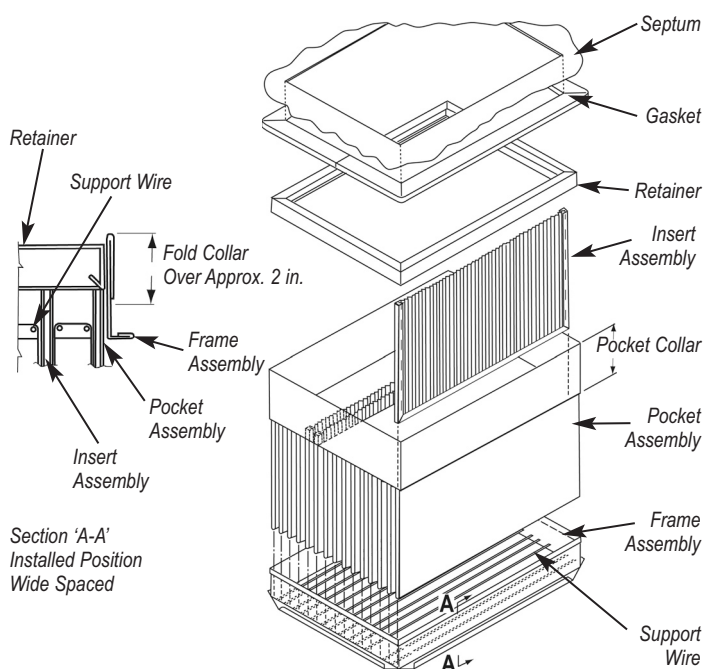

Figure 9. Cartridge Installation
6.3 Filter Cartridge Change-Out (Figure 9)
8. Assemble the new cartridge as shown in Figure 9 using the existing frame and pocket inserts.